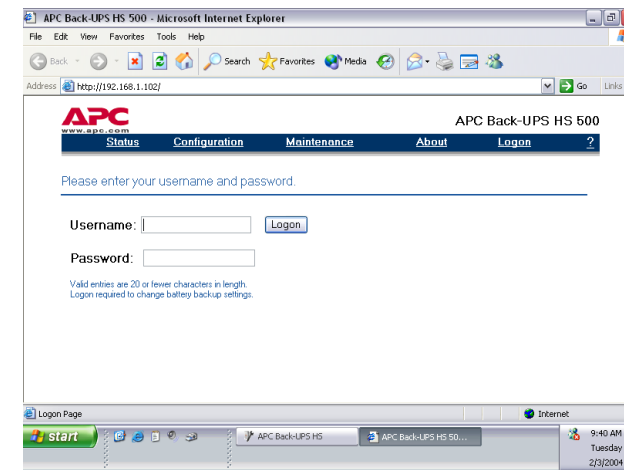

Figure 14. Log On Screen
13. To change the configuration of the Back-UPS or perform UPS maintenance, you must log on to the web page (Figure 14) by clicking on the **UPS Settings** button.
When this page is displayed, enter a default **Username** of **apc**, and a default **Password** of **apc**. To change the **Username** or **Password**, you must log on and then click **Maintenance** (Figure 14).